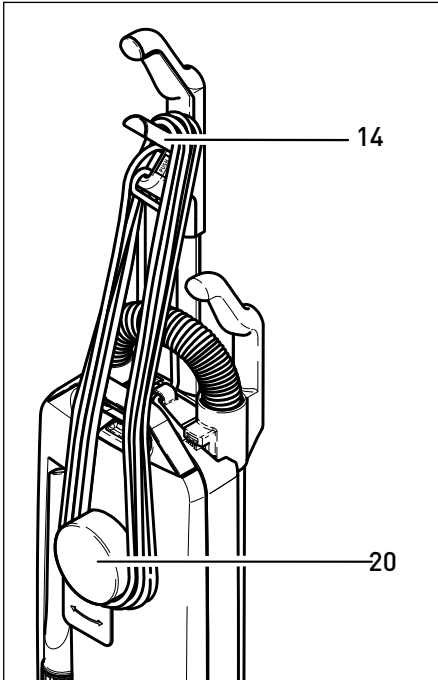
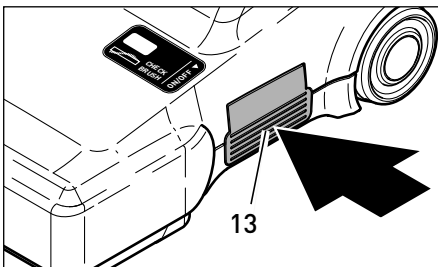

Figure 6
Figure 7
## Starting The Machine - Figures 6 & 7
1. Turn the quick-release lower cable reel (20) to the up position by moving it to the left or right (figure 6).
2. Release the power cord plug from the power cord and lift the cord off of the upper cable reel (14).
3. With the orange on/off switch (13) in the OFF position (figure 7), plug the polarized power cord into a 120 volt outlet located near the floor.
4. Turn the machine on by gently tapping the on/off switch (13) with your foot or hand. To switch the vacuum off, tap it again, and the switch will pop out to the off position.